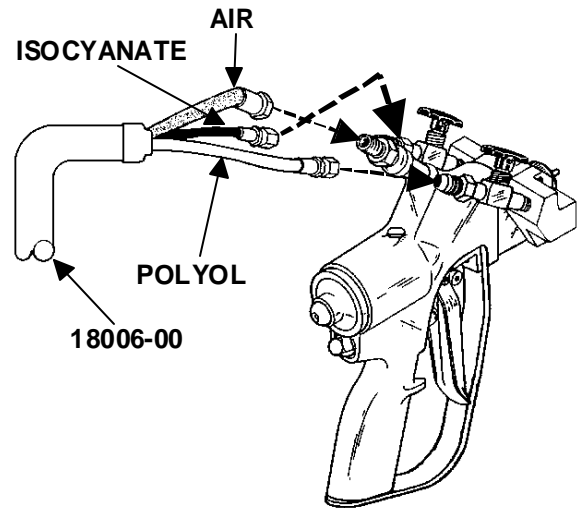

Fig. 2
2. The Whip Hose assembly should now be attached to the Gun. The swivel fittings on the Whip Hose assembly are sized differently and will attach only one way. (Match like sized fittings.) Also connect the Air Hose assembly to the Gun at this time. (see Fig. 2)